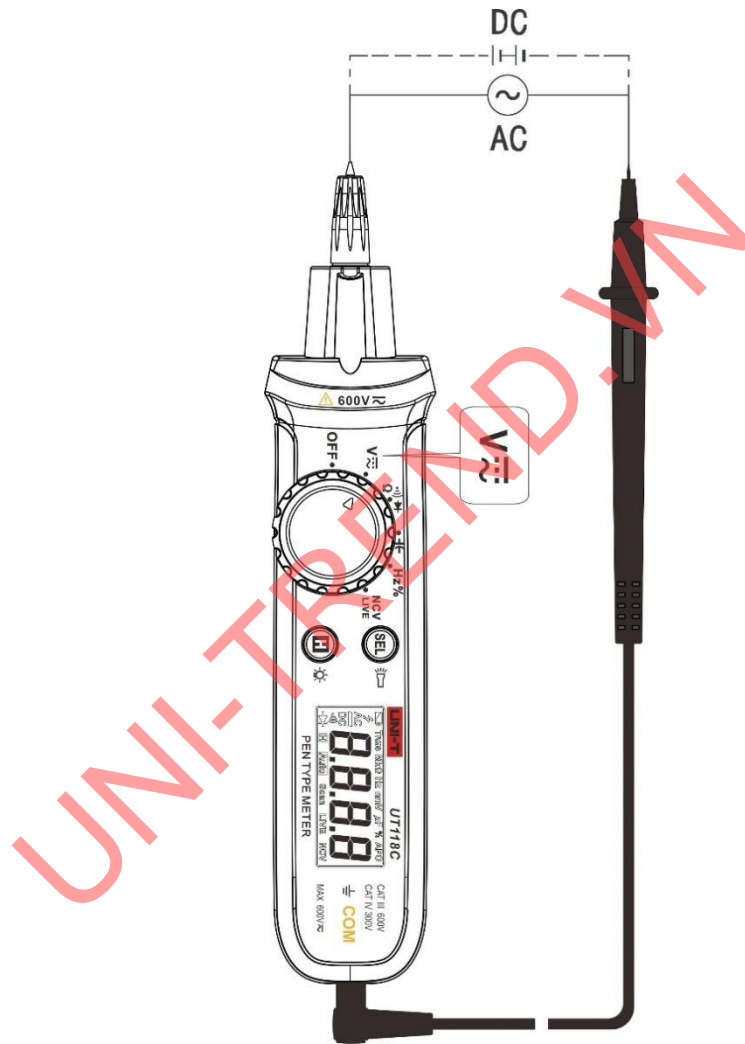

Figure 3
11.1 Measure DC/AC Voltage (Figure 3)